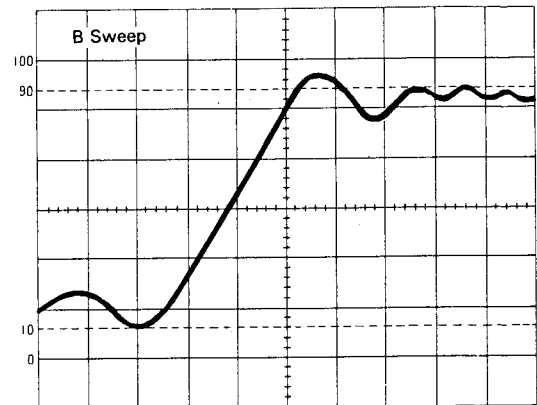

Fig. 13 Magnified view of intensified zone above
4. Set the HORIZ DISPLAY to B to display the INT intensified portion as a magnified B sweep. (Fig. 13)